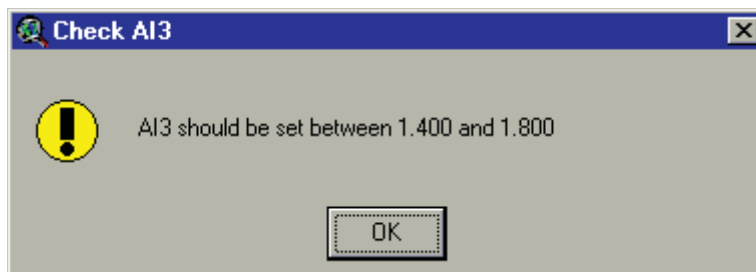

Figure 13.21
- iii. Edit data: Activate a parameter text box by clicking on it. Type the desired value. You can move to the next parameter by pressing the **TAB** key. If the value of the parameter is out of range, a message box like the one in Figure 13.21 will be displayed.